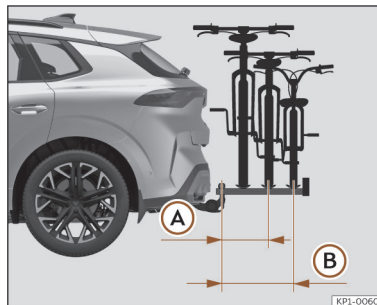

Fig. 199 Schematic representation of the maximum load overhang of a bicycle rack for two or three bicycles.
- (A) With up to 55 kg load capacity: 500 mm (approx. 19.7 in)
- (B) With 75 kg load capacity: 700 mm (approx. 27.6 in)
The maximum overhang shall not exceed 500 mm from the centre of the ball head to the centre of the rail of the last support >>> **Fig. 199 (A)** for two-bicycle racks. In the case of three-bicycle racks, the overhang must not exceed 700 mm >>> **Fig. 199 (B)**.